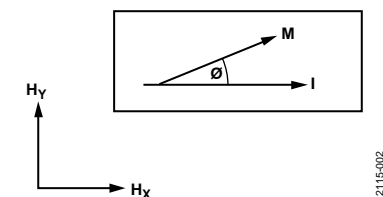

Figure 2. Anisotropic Magnetoresistive Example
An example of the AMR effect is shown in Figure 2. A current (I), flowing through a conductor, is subject to an external magnetic field ( $H_Y$ ). The resistance of the conductor changes as a function of the angle ( $\theta$ ) between the magnetization vector (M) and the current flow vector (I). The magnetization vector is the net sum of the internal magnetic field ( $H_X$ ) and the applied external magnetic field ( $H_Y$ ).